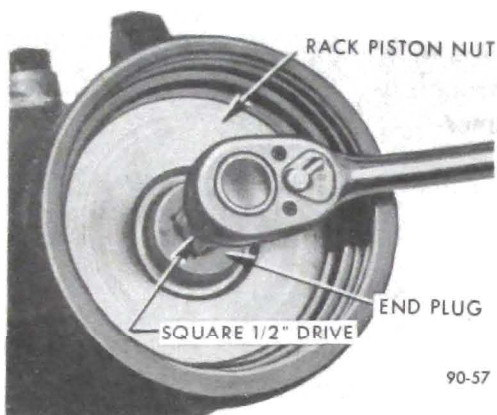

Figure 90-68 Removing Rack-Piston Nut End Plug
6. Remove rack-piston nut end plug with a 1/2" square drive. See Figure 90-68.